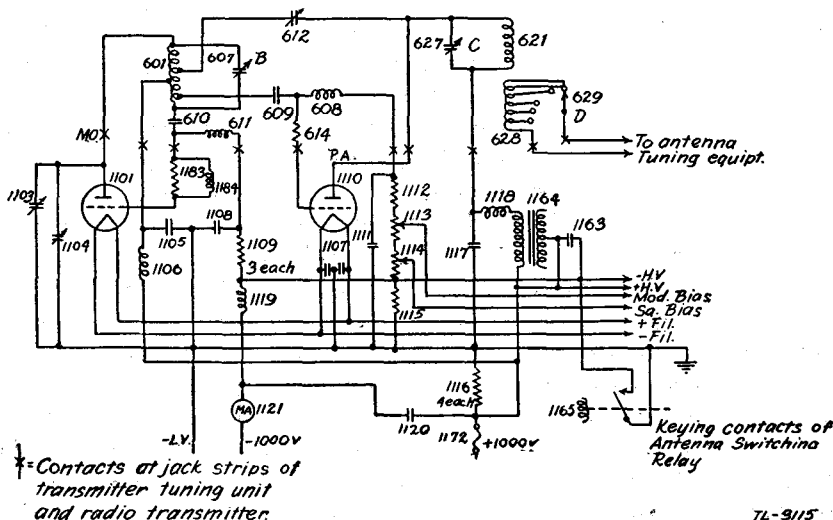
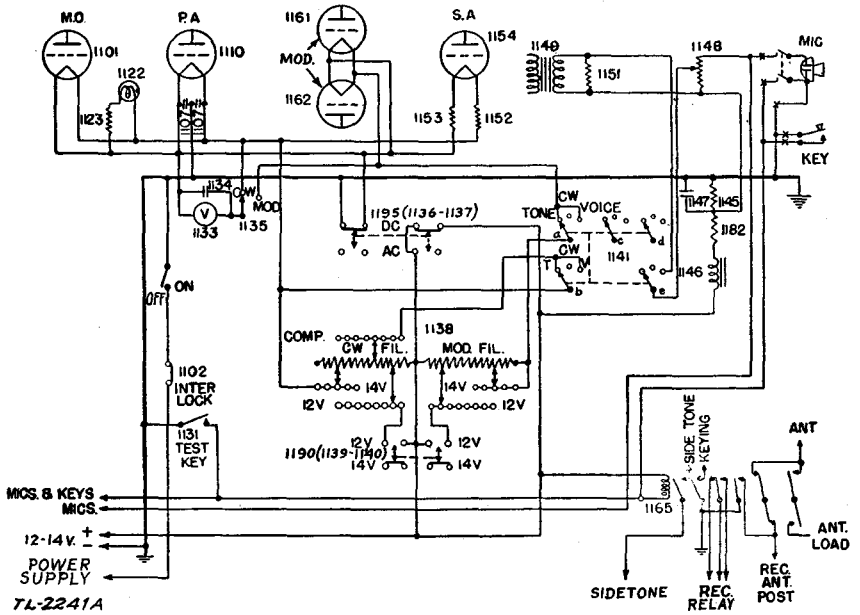

FIGURE 12.—Radio transmitter BC-191-(*), radio frequency and high voltage circuits—functional diagram.
FIGURE 17.—Radio transmitter BC-191-(*) , low voltage and control circuits, d-c operation—functional diagram.
27. Radio transmitters BC-191-(*) and transmitter tuning units TU-3-A or -B, TU-5 to TU-10-A or -B, TU-22-A or -B and TU-26-A or -B.—*a. Oscillator circuit.*—The master oscillator circuit is schematically illustrated in figure 12. The oscillatory
circuit by which the frequency of the transmitter is controlled is contained in the transmitter tuning unit being used. When the transmitter tuning unit TU-6-A or -B is employed and the BAND CHANGE SWITCH A is in position 2 (fig. 20), the oscillatory circuit comprises the tapped coil 601 and the variable capacitor 607. Moving the BAND CHANGE SWITCH A to position 1 places the fixed capacitors 603 and 613 in parallel with the variable capacitor 607 and enables this tuning unit to cover the lower ranges of its frequency band. Continuous adjustment of frequency is accomplished by means of the variable capacitor 607, control B. Controls, coil, and capacitors of the other transmitter tuning units (fig. 20) are arranged for similar operation on either one, three, or four bands, depending on the unit. In each tuning unit, both coils and capacitors are thermally compensated to reduce frequency variation due to normal changes in air temperature. Subsequent discussion of the master oscillator circuit is limited to the circuit shown in figure 12, which results when transmitter tuning unit TU-6-A or -B is used with BAND CHANGE SWITCH A on position 2. The radio frequency voltage across the lower half of the coil 601 provides the master oscillator grid excitation voltage. The coil is also tapped an equal number of turns on either side of the center tap. The grid excitation voltage for the power amplifier is furnished through capacitor 609. The master oscillator grid excitation voltage is obtained through capacitor 610, which also blocks the d-c plate voltage from the grid circuit. Resistor 1183 and choke 1184, in parallel, are connected in series with the grid of the master oscillator tube to prevent the generation of parasitic oscillations. The plate voltage for the master oscillator is fed to the tuning unit through radio frequency choke 1106, which, with capacitor 1105, prevents radio frequency current from flowing into the power supply. Resistors 1109 (three in series) function as the master oscillator grid leak which provides the required operating bias for the master oscillator tube from the rectified grid current. Part 1108 is a radio frequency bypass capacitor. Grid choke 611, in conjunction with resistors 1109, serves as the necessary d-c path from the grid to the filament, maintaining at the same time a high impedance to the radio frequency grid excitation voltage. Capacitor 1104 is the calibration reset by means of which the master oscillator tuning circuit can be adjusted to correspond to the calibration chart whenever the oscillator tube is changed. This capacitor is adjusted through a small port in the front panel to the right of TEST KEY. Capacitor 1103 is a sealed capacitor which provides the necessary thermal compensation for any frequency drift normally
b. *Power amplifier circuit.*—(1) The power amplifier circuit is schematically illustrated in conjunction with the master oscillator circuit in figure 12. The power amplifier plate tank circuit, by means of which the plate load impedance is adjusted, is contained in the transmitter tuning unit. When the transmitter tuning unit TU-6-A or -B is employed and BAND CHANGE SWITCH A is in position 2, the plate tank circuit comprises the coil 621 and variable capacitor 627. Moving BAND CHANGE SWITCH A to position 1 places
(2) Subsequent discussion of the power amplifier circuit is limited to the circuit shown in figure 12, which results when the transmitter tuning unit TU-6-A or -B is used with BAND CHANGE SWITCH A on position 2. The power amplifier grid receives excitation through capacitor 609 from the master oscillator tank coil. Capacitor 609 also keeps the master oscillator d-c plate voltage from the
f. Keying.—Keying of the transmitter (fig. 12) is controlled by means of resistor 1115, one end of which is connected to negative high voltage and to all grid circuit returns, and the other end to negative filament or ground potential. The keying contacts of relay 1165 are connected across this resistor. When the keying contacts are open, the voltage drop across 1115 is such that the grids of the tubes are negatively biased beyond plate current cut off, stopping oscillation. When these keying contacts are closed, resistor 1115 is shorted and normal grid biases on all tubes are reestablished. Operation of the keying contacts is accomplished by supplying power to the antenna switching relay 1165. (See fig. 17.) Power is supplied to this relay when the key, test key, or the microphone button switch is operated. Operation of the antenna switching relay performs the following additional functions:
- (1) Disconnects the receiving equipment from the antenna and grounds the receiver input circuit.
- (2) Connects the transmitter to the antenna circuit.
- (3) Keys the side tone circuit.
(2) Under the condition of d-c filament supply (fig. 17), resistor 1138 is used to adjust the filament potential to approximately 10 volts, as indicated by the red line on voltmeter 1133. The midtap of this resistor is connected to the power source. One side of the resistor is used for the adjustment of the filaments of the tubes used for continuous wave operation and the other side for the modulator tubes.
(3) Provision is made to short out a section of the continuous wave filament resistor by means of one section of switch 1141 (figs. 13 and 17) to compensate for the increased line drop which occurs when the modulator filaments are lighted. This arrangement makes it unnecessary to readjust the voltages when changing from continuous wave to tone or voice operation. A portion of the resistor may be short-circuited by the 12V. 14.2V. switch 1190 (1139, 1140) (fig. 17), so that the correct filament voltage may be applied both when the power supply storage battery is being charged and when it is not being charged. Switch 1135 connects filament voltmeter 1133 to either the continuous wave or modulator tube filaments. If the filaments are operated from an a-c source, resistor 1138 serves only as a compensating resistor to eliminate the need for readjusting the filament rheostat when changing from continuous wave to tone or voice transmission.